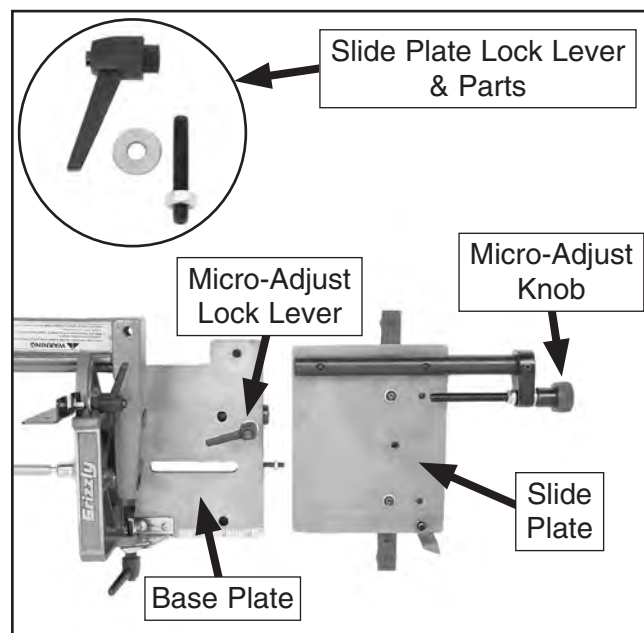

Figure 9. Separating the slide and base plates.
1. Remove the slide plate lock lever and flat washer, then un-thread the long set screw the lock lever was attached to (see **Figure 9**).
2. Loosen the micro-adjust lock lever, then rotate the micro-adjust knob counterclockwise to force the slide plate to move and separate from the micro-adjust screw, as shown in **Figure 9**.